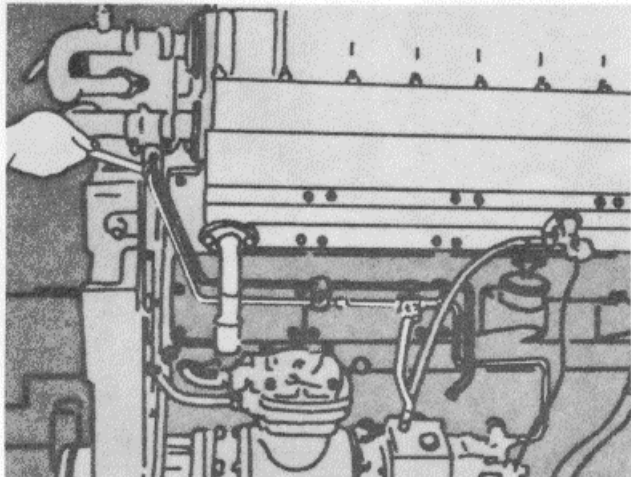

Figure 16B-19. Remove the Fuel Tubing
3. Remove the fuel pump from the accessory drive housing or air compressor, Figure 16B-20. Lift out the drive buffer coupling.